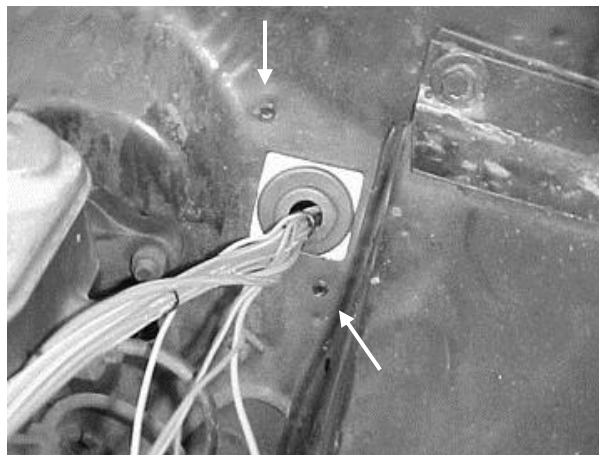

Figure 8.2 Screws Securing Adapter Bracket
- 8.1.3** Position the fuseblock assembly so that the grommet is centered in the bulkhead hole. Using the 2 screws provided attach the fuseblock adapter plate to the firewall. See FIGURE 8.2 & 8.3